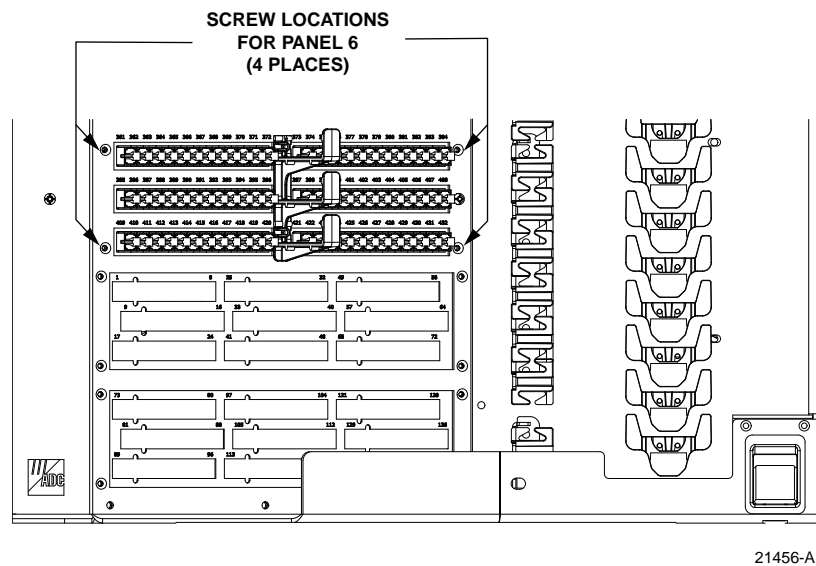

Figure 23. Secure Distribution Panel to Swing-Out Assembly
10. Working from the front, use the four screws provided to secure the front of the distribution panel to the swing-out assembly as shown in Figure 23.